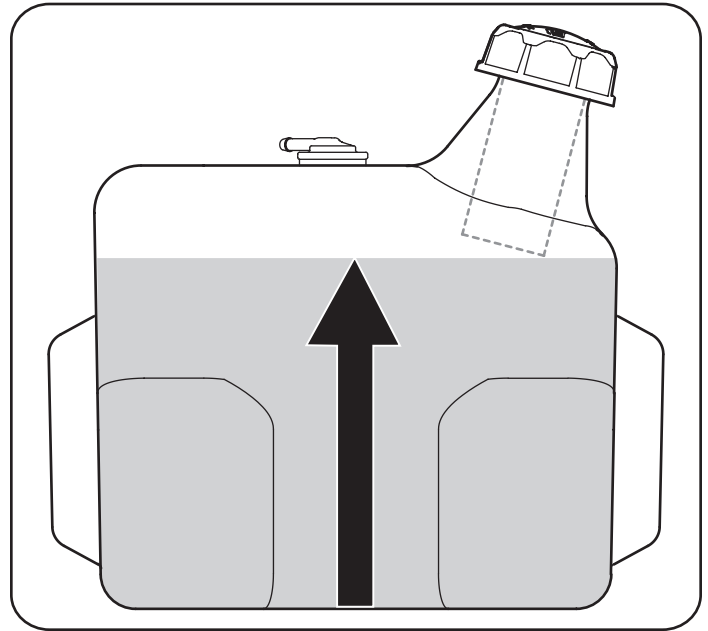

Figure 9
2. Fill the fuel tank with gasoline. Use only clean, fresh (no more than 30 days old), unleaded gasoline. Fill tank to no more than  $\frac{1}{2}$ " below bottom of filler neck to allow space for fuel expansion. See Figure 9.
**IMPORTANT:** Do not overfill the tank. Fill tank to no more than  $\frac{1}{2}$ " below bottom of filler neck to allow space for fuel expansion. See Figure 9.